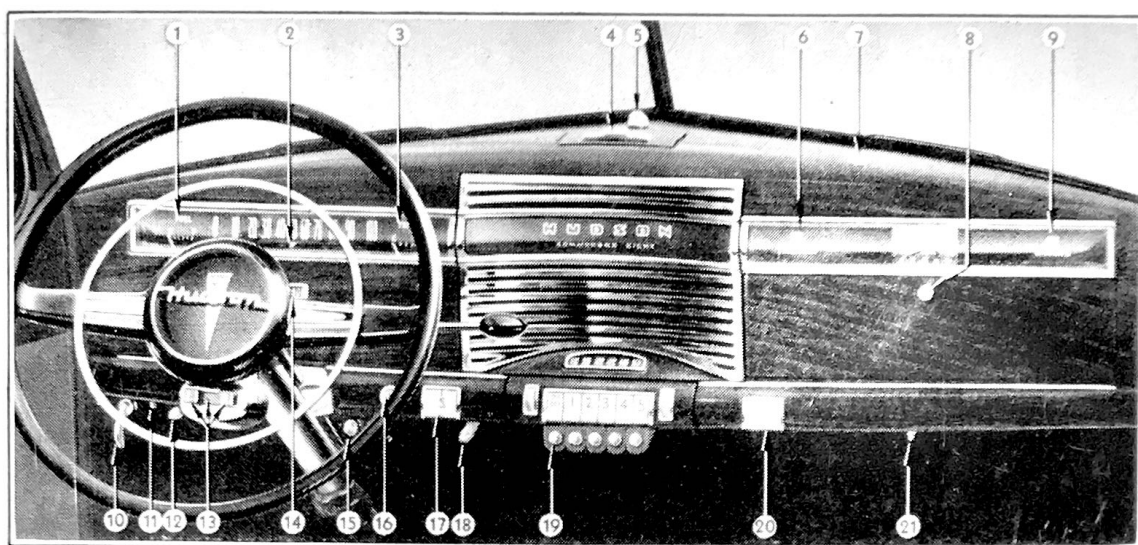

Figure 5
Ash Receiver (4), Fig. 5, is located in center of instrument panel on top face. To open tilt lid forward.
Water Temperature Gauge (3, Fig. 5), indicates temperature of cooling fluid only when ignition is turned on. Pointer returns to "H" position at right side of dial when ignition is turned off.
To Operate Overdrive—Press "in" overdrive control button (15), Fig. 5, on lower ledge of instrument panel. This may be done when car is stationary or at any speed. When car has reached a speed of approximately 22 miles per hour in high gear, momentarily release accelerator pedal, then depress accelerator pedal for normal operation in overdrive. The car will now remain in "overdrive" until the speed has been reduced to approximately 19 miles per hour at which time the overdrive will automatically unlock and the car will drive through the free wheeling unit.
To prevent the engine or accessories in the engine compartment being tampered with, when the car is unattended and doors locked, the bonnet is locked from the driver's compartment. The lock handle is located below the instrument panel just to the left of the steering gear column. See Fig. 5.